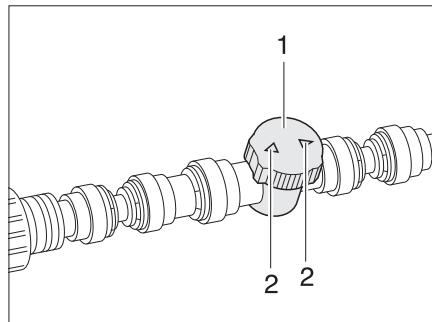

Fig. 121 Regulator floor warming unit
- Set the regulator (Bild 121,1) to the desired flow level (max flow = arrows (Bild 121,2) in direction of lines).
- Turn the regulator (Bild 121,1) until both arrows (Bild 121,2) are at a right angle to the heating lines.